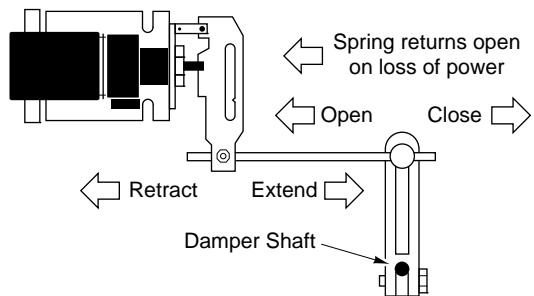
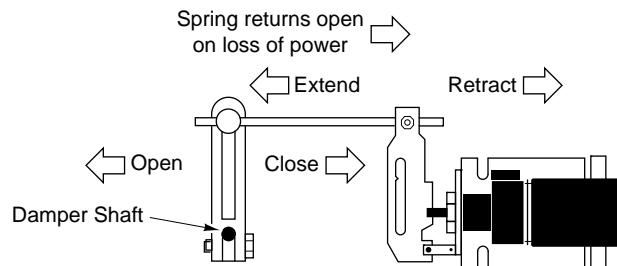

Figure-12 Dampers Open When Actuator Retracts
Figure-13 Dampers Open When Actuator Extends
- a. Determine, from the system requirements, if the damper should spring-return to the open position (refer to Figure-12) or closed position (refer to Figure-13) whenever power is lost to the actuator. For example, an outside air damper actuator is typically linked so as to retract (spring-return) to the damper's fully closed position (safe position).